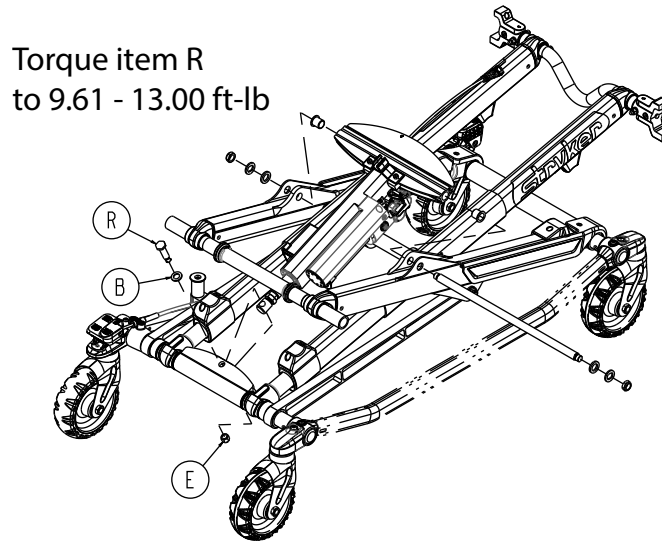

Figure 31 – Lift assembly components
15. Using a 3/4" combination wrench and a 9/16" combination wrench, remove the rod attachment pin (R), flat washer (B), and Nylock hex nut (E) that secure the hydraulic cylinder to the base (Figure 31). Save all parts.